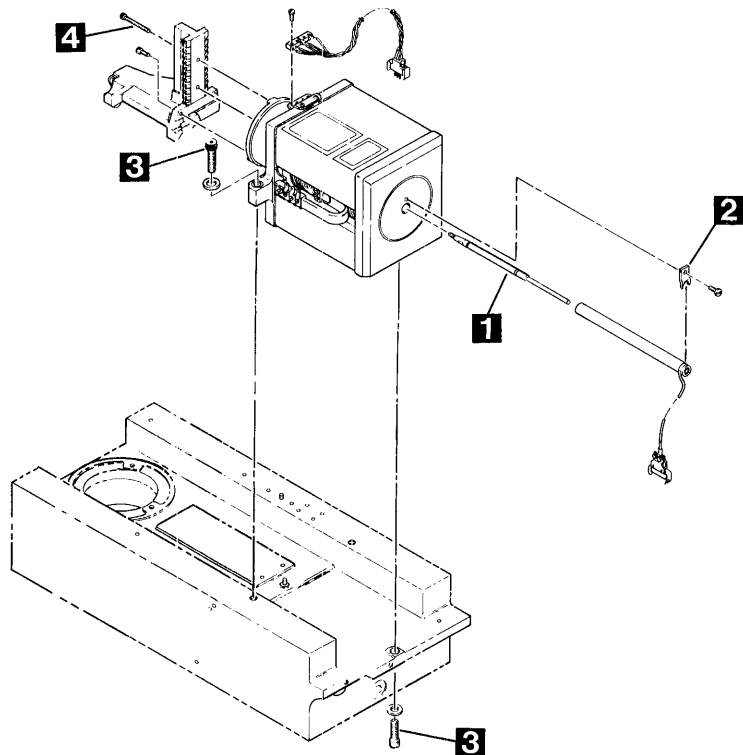

FIGURE 4-17. ACTUATOR MECHANISM
4. Push carriage forward about three inches, then unscrew tach rod (1 in Figure 4-17) from carriage using a 1/4-inch open-end wrench.